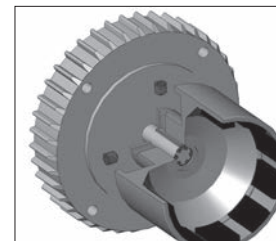

Figure 7 - NEMA
NEMA Motors: Install set screws (item 13A) into threaded holes on the side of the outer drive magnet assembly. Using a 3/16" Allen wrench, tighten to 228 in-lbs (25.8 N-m). See figure 7.